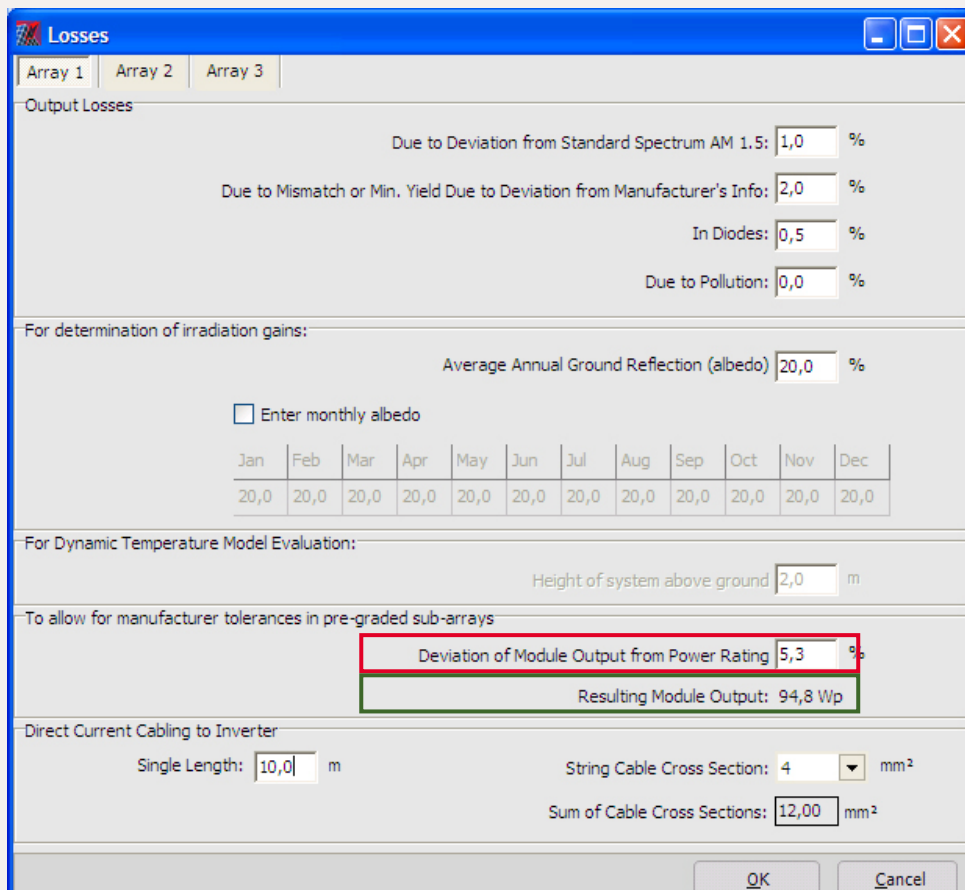

Fig. 3: Deviation of the module output from the rated capacity entry in the Losses menu
2. Enter the correction factor for the relevant power classes under Losses in the field Deviation of the module output from the rated capacity (Fig. 3, marked in red) (shown here on the example Q.SMART UF 90).
The corrected module output taking into account positive sorting and LSE is shown in the input window under Resulting module output (Fig. 3, marked in green).
The simulated yield values are now based on the value of the resulting module output (in the example Fig. 3: 94.8 Wp). The standardised values (e.g. spec. yield [kWh/kWp]) still refer to the nominal values, however (in the example, 90 Wp). The correction factors are therefore increased accordingly in the simulation.